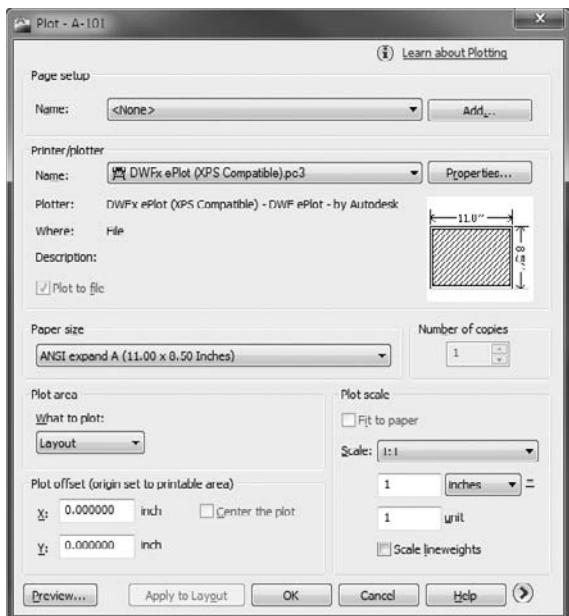

FIGURE 15.2 The Plot dialog box
The title bar includes the name of the layout because, in this case, you're printing a drawing from paper space (layout). If you print from model space, the title bar displays the word "Model." This dialog box is similar to the Page Setup dialog box you worked with in Chapter 14, "Using Layouts to Set Up a Print," when you were setting up layouts (see Figure 15.2).
In this group, the Name drop-down list contains the various printing devices to which AutoCAD has been configured; the current one, the DWFx ePlot (XPS Compatible).pc3, is displayed in Figure 15.2. Just below the list, the name of the driver and the assigned port or network path and asset name are displayed for the selected printer.
1. In the Plot Scale area, expand the Scale drop-down list and select 1:1. Verify that the Plot Scale Units drop-down list is set to inches (mm) as shown in Figure 15.2 above.